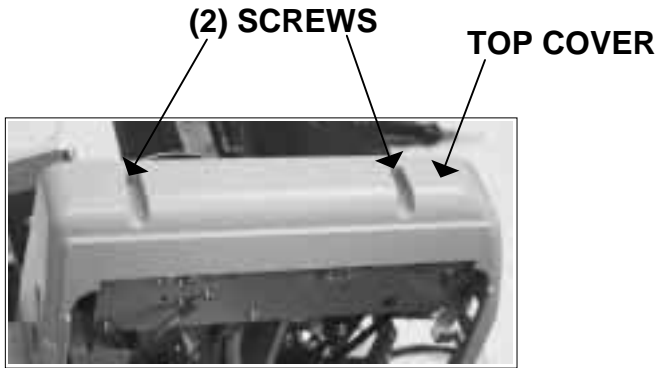

Fig. 6-51
4.	Remove (2) screws to remove top cover. Fig.6-51